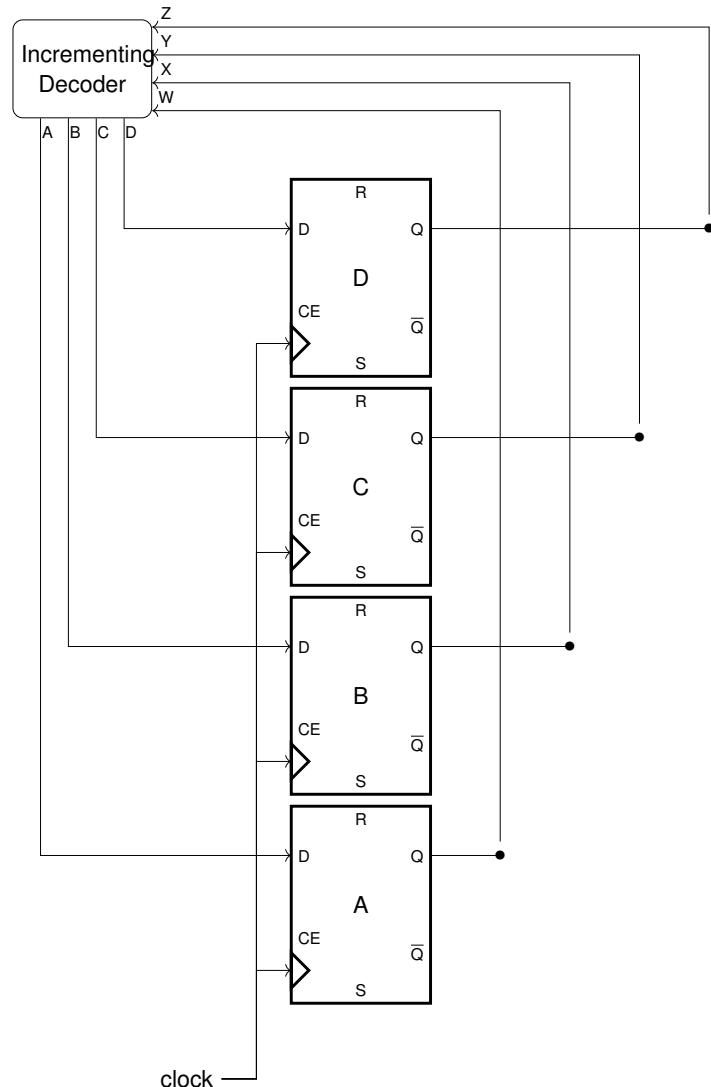

Fig. 6.2: Decade counter FSM implementation using D-Flip Flops
2. The FSM implementation is available in Fig 6.2 The *flip-flops* hold the input for the time that is given by the *clock* This is nothing but the implementation of the *Delay* block in Fig 5.2